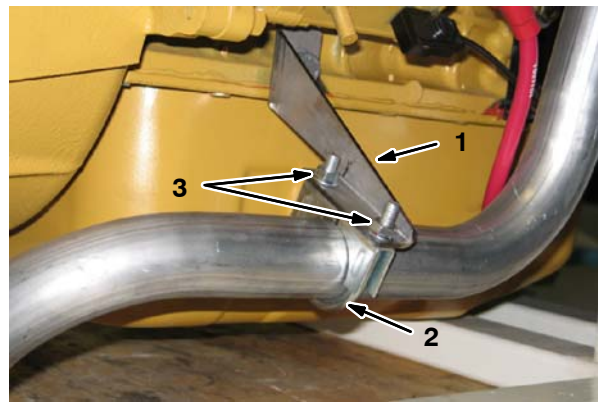

FIG. 3
3. Use two hex nuts (3) and a muffler clamp (2) to secure the exhaust pipe to the exhaust pipe bracket (1). Refer to Fig. 3.